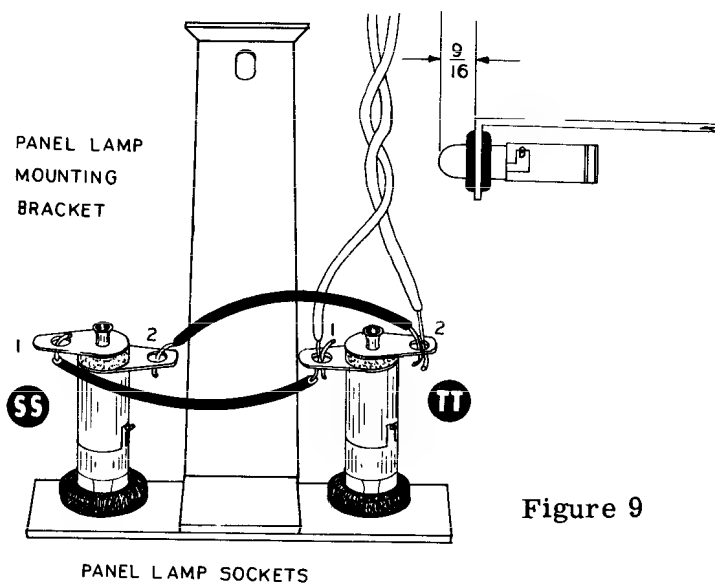

Figure 9
- () Insert 1/2" rubber grommets in holes SS and TT in the panel lamp mounting bracket. See Figure 9.
- () Install the two #47 pilot lamp bulbs in the pilot lamp sockets and push the bulbs through the rubber grommets until the end of the bulb is 9/16" from the outer surface of the bracket. It is important to measure this distance carefully so that the bulb will not be in contact with the panel. See Figure 9.
- () Cut two 4" lengths of hookup wire. Connect the terminals of the lamp sockets by running one wire from SS1 (S-1) to TT1 (NS). Connect the other wire from SS2 (S-1) to TT2 (NS).